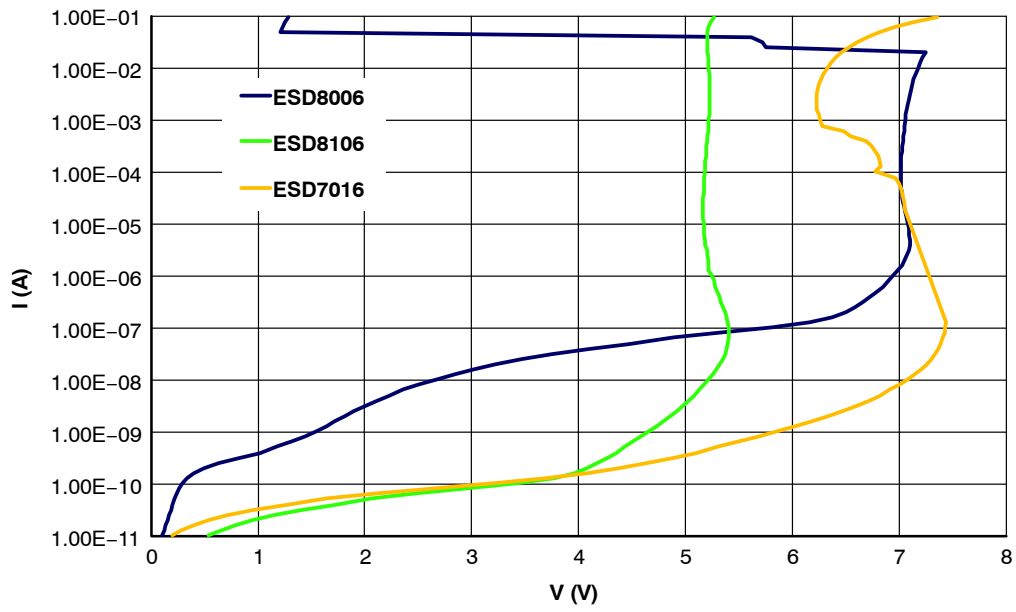

Figure 11. Low Current, DC, IV Characteristic of Each Technology
- ESD8100 series: Low voltage punch through (LVPT) technology. The key advantage for this technology is a very low turn-on voltage as shown in Figure 11. This technology provides optimized protection for chipsets with small geometries against recoverable failures due to voltage peaks (also known as "soft failures").